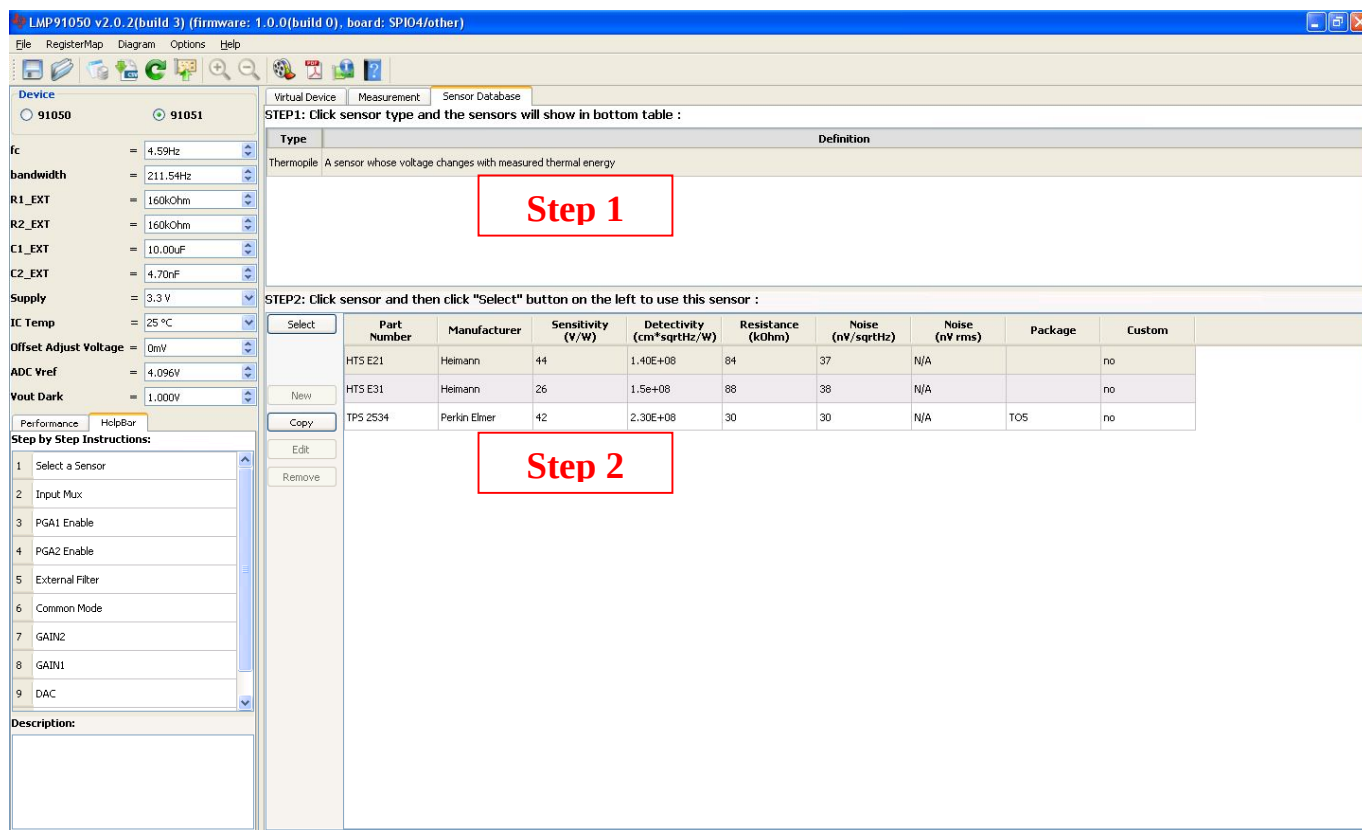

Figure 6: Sensor Database Window
1. Step 1: Select a Sensor – Sensor Database window opens. See Figure 6. Step 1: Click sensor type (Thermopile) and the sensors will show in the bottom table. Step 2: Click sensor and then click **“Select”** button on the left to use this sensor.